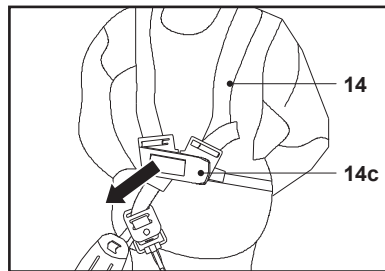

Fig. 15
8. In case of emergency hold the upper pole (9) with the right hand, and use the left hand to push open the release lever (14c). The harness (14) will be released automatically from the body because of the weight of the product (Fig. 15).